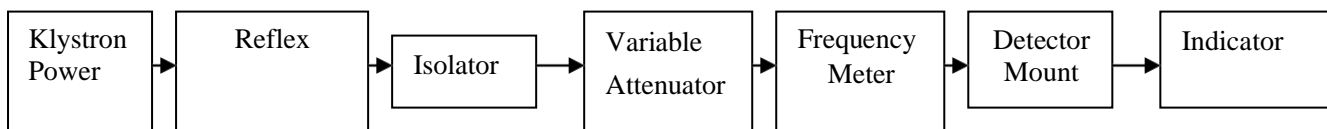

Fig:1
- 1) Assemble the equipment as shown in Fig.1 with VSWR meter as indicating meter.